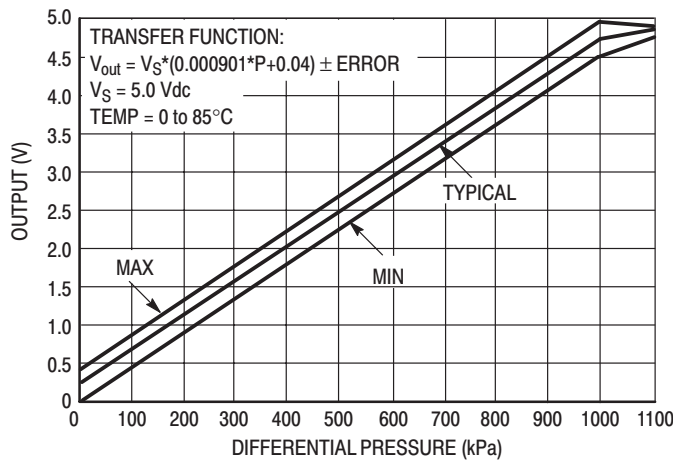
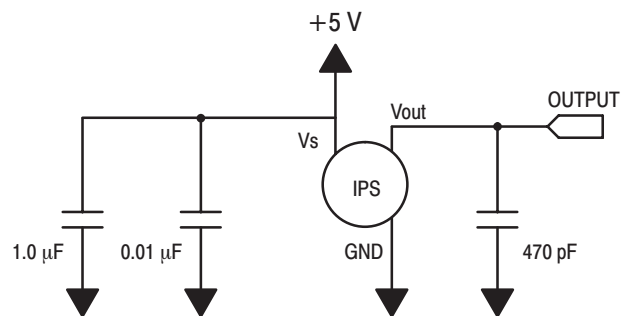

Figure 2. Output versus Pressure Differential
Figure 4. Recommended power supply decoupling and output filtering. For additional output filtering, please refer to Application Note AN1646.
**OPERATING CHARACTERISTICS** (VS = 5.0 Vdc, TA = 25°C unless otherwise noted, P1 > P2. Decoupling circuit shown in Figure 4 required to meet electrical specifications.)
Figure 2 shows the sensor output signal relative to pressure input. Typical, minimum, and maximum output curves are shown for operation over a temperature range of 0° to 85°C using the decoupling circuit shown in Figure 4. The output will saturate outside of the specified pressure range.
Figure 4 shows the recommended decoupling circuit for interfacing the output of the integrated sensor to the A/D input of a microprocessor or microcontroller. Proper decoupling of the power supply is recommended.